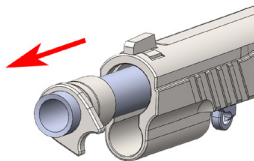

Figure 34
- To remove the barrel bushing, begin to push the barrel out of the front of the slide – Figure 34. This should loosen the barrel bushing. Remove both the barrel bushing and barrel from the slide. Remove the barrel bushing from the barrel if it is still installed on the barrel.